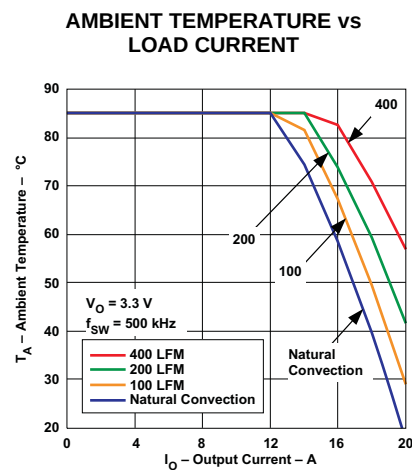

Figure 18. Safe Operating Area
- (2) The temperature derating curves represent the conditions at which internal components are at or below the manufacturer's maximum operating temperatures. Derating limits apply to modules soldered directly to a 100 mm x 100 mm double-sided PCB with 2 oz. copper. Please refer to the mechanical specification for more information. Applies to Figure 15 thru Figure 18.